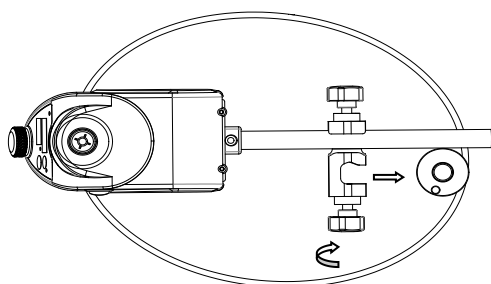

Figure 6
- Put the stand rod in the left groove of the active block, use the adjust knob to fix them (refer to figure 6).